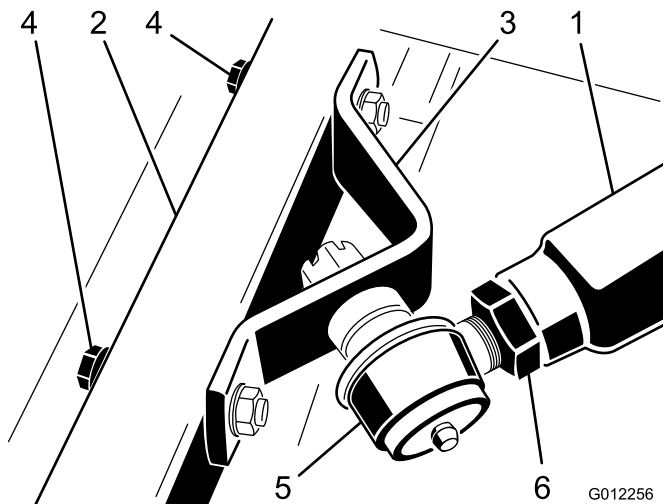

Figure 20
5. Have another person push down on the right push arm while you remove the capscrews, flat washers, and locknuts securing the ball joint mount to the castor arm on the cutting unit (Figure 20). Now the helper can carefully allow the push arm to move upward, which will gradually release the 45 kg (100 pounds) of spring load.
3. Have another person carefully push down on the right push arm until the holes in the ball joint mount line up with the holes in the castor arm (Figure 20).